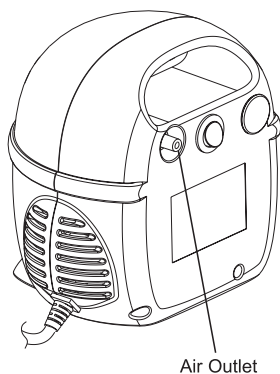

Figure 6-1
9. Press one end of the tubing firmly onto to the air outlet on the front of the compressor unit. It is important that the tubing be pushed firmly all the way onto the air outlet of the compressor unit. The tubing is designed to fit tightly (Figure 6-1).